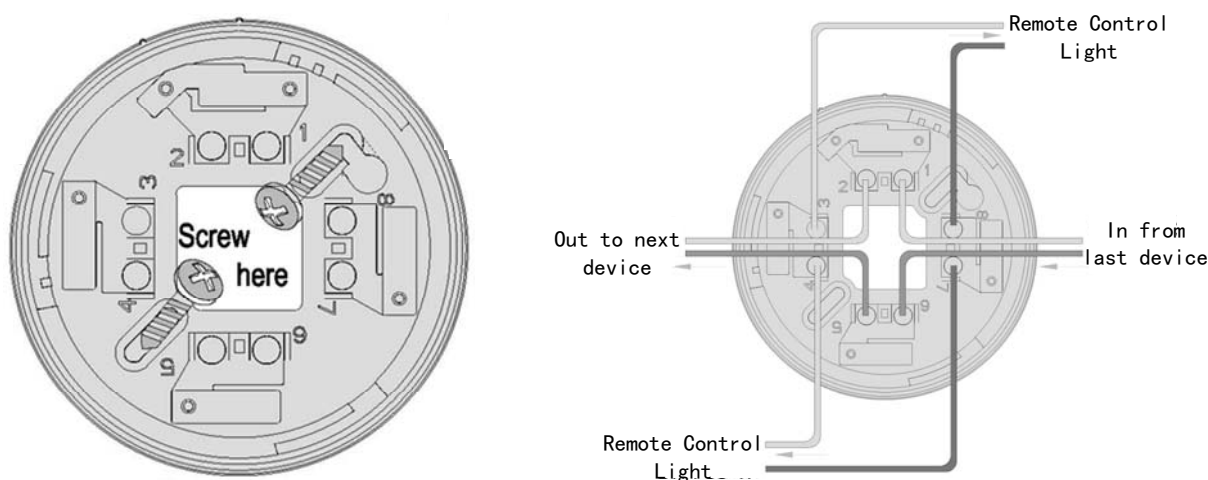

Fig.1 LF-X5980 base structure and the terminals connection diagram
1. Install the LF-X5980-type base in the position where the Addressable Sounder Base will be installed. Following the arrow mark for the correct position. Do not over-tighten the screws otherwise the base will twist. Use M4 standard screws. Terminals 1 and 6 are the bus signal inputs for connection to the last device. Terminals 2 and 5 are the bus signal outputs for connection to the next device. Terminals 3&8 or 4&7 are used to connect remote indicators. LF-X5980-type base structure and the terminals connection diagram as shown in Figure 1.